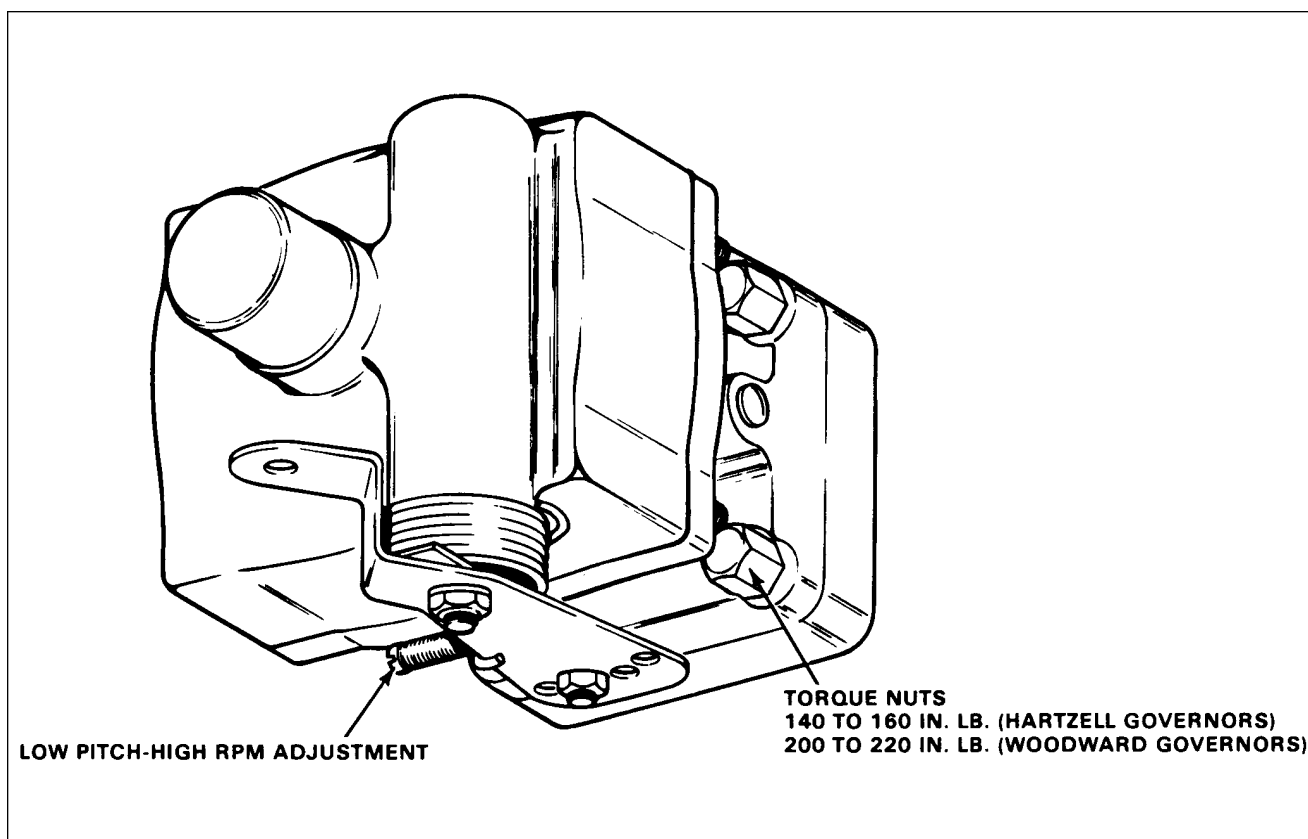

Figure 8-5. Propeller Governor
- d. Tighten the mounting bolts evenly and tighten to a final torque as shown in Figure 8-5.
### 8-16. RIGGING AND ADJUSTMENT OF PROPELLER GOVERNOR. (Refer to Figure 8-5.)